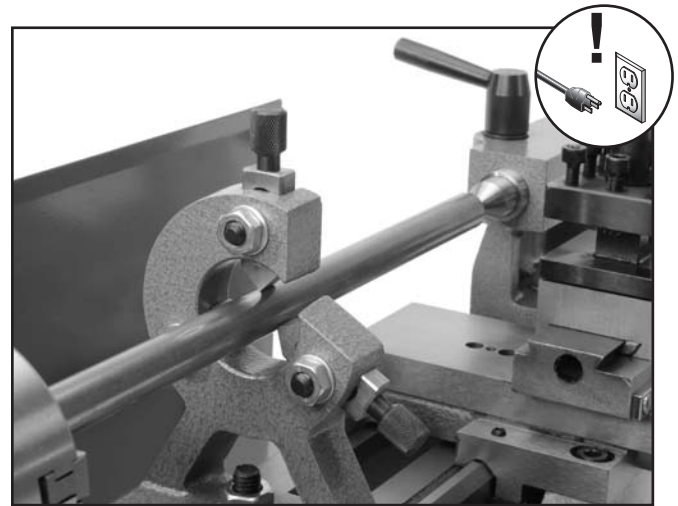

Figure 20. Steady rest.
4. Place the workpiece so it can fit inside the fingers. Secure the two ends of the workpiece with the chuck and dead center or between two centers as required (see **Figure 20**).